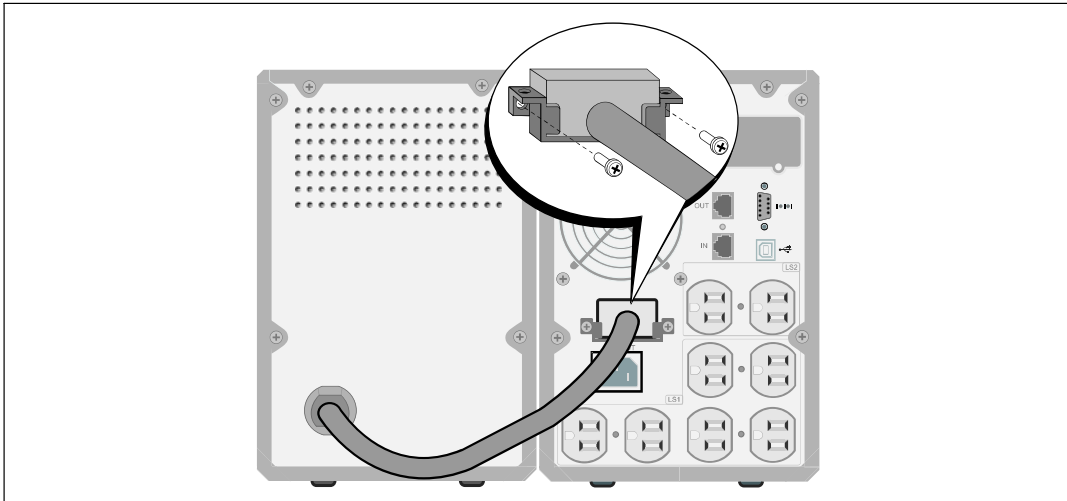

Figure 15. EBM Installation for 1000W and 1920/1500W Tower UPS Models Only
- 3 Plug the EBM cable into the UPS battery connector (see Figure 15).